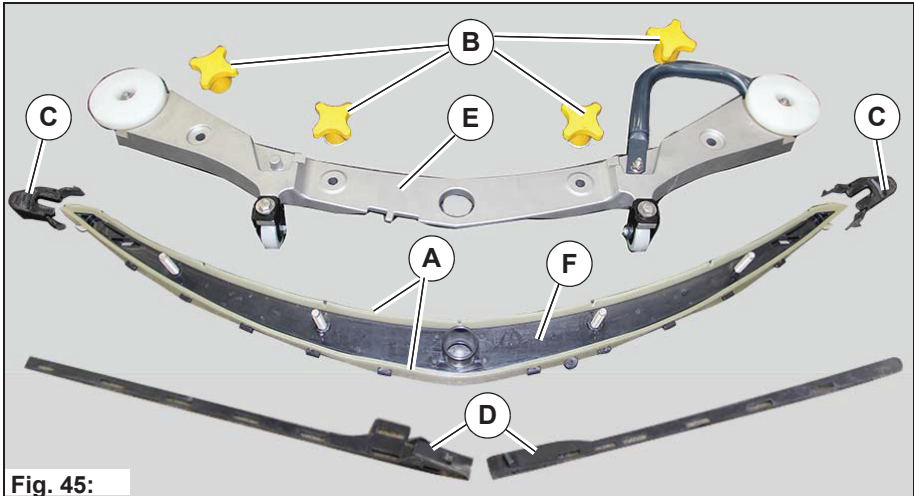

Fig. 45:
Check the sealing strips **Fig. 45-A** at the squeegee weekly for wear and intactness. If the used sealing edge of the sealing strip is worn or damaged, turn or replace the sealing strip. Each sealing strip can be used four times before it needs replacing.
3. Press together the protective caps **Fig. 45-C** and pull them out.
4. Loosen the clamping band **Fig. 45-D** and remove it from the catch **Fig. 44-B**.
5. Pull out the aluminium body **Fig. 45-E** from the top.
6. Remove the sealing strips **Fig. 45-A** from the plastic body **Fig. 45-F**.